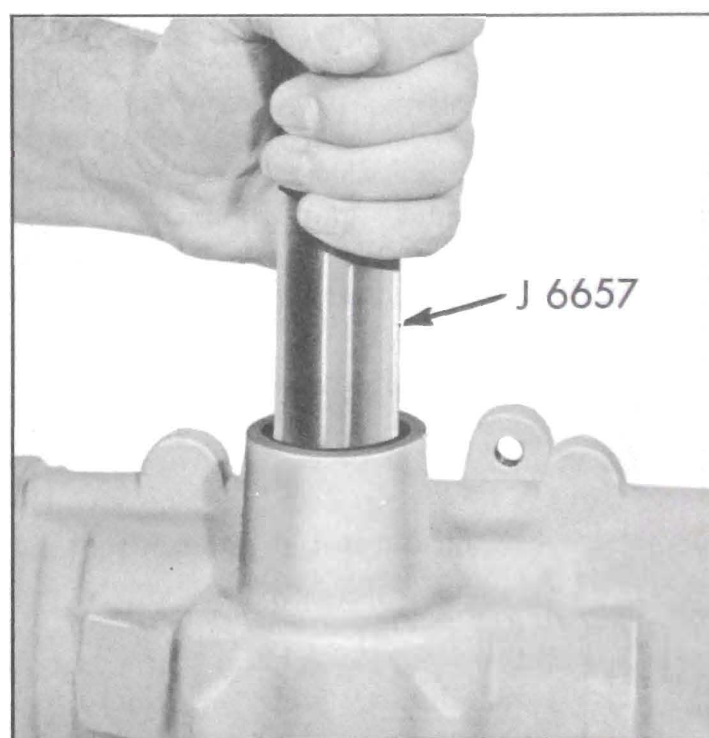

Figure 8-43—Removing Pitman Shaft Needle Bearing
2. Check the pitman shaft needle bearing for being worn, pitted or scored. If damaged, remove needle bearing from gear housing bore by driving from the seal bore side of housing using Tool J-6657. See Figure 8-43. Discard bearing.